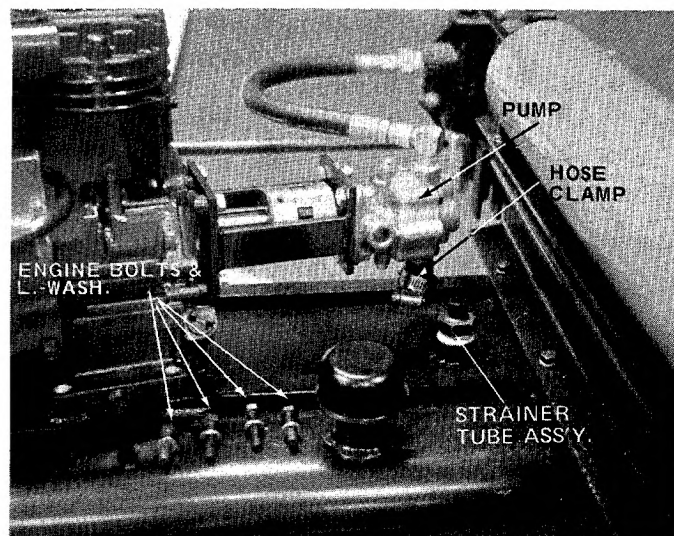

FIGURE 16
- A. Remove your engine bolts and lockwashers. See figure 16.
- C. Lift engine and pump assembly and rotate to one side. See figure 16.
- D. With a wrench, remove strainer tube assembly. See figure 16.